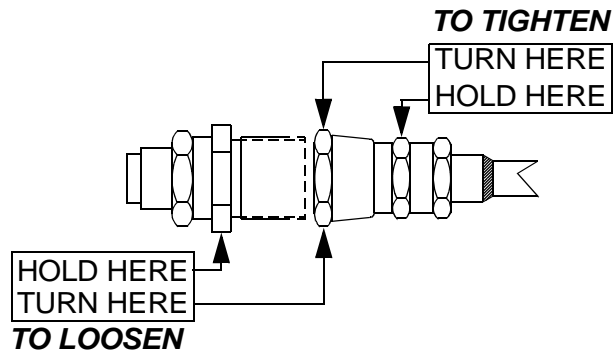

Figure 1: Disconnecting/Connecting Self Sealing Couplings
2. Using a 1-3/16 in. wrench, and a 1-1/8 in. wrench, disconnect the compressor SUPPLY self sealing coupling as shown in Figure 1.
10. Using two wrenches as shown in Figure 1, tighten the two self sealing coupling at the bottom of the adsorber.
14. Using two wrenches as shown in Figure 1, tighten the SUPPLY self sealing coupling the adsorber.